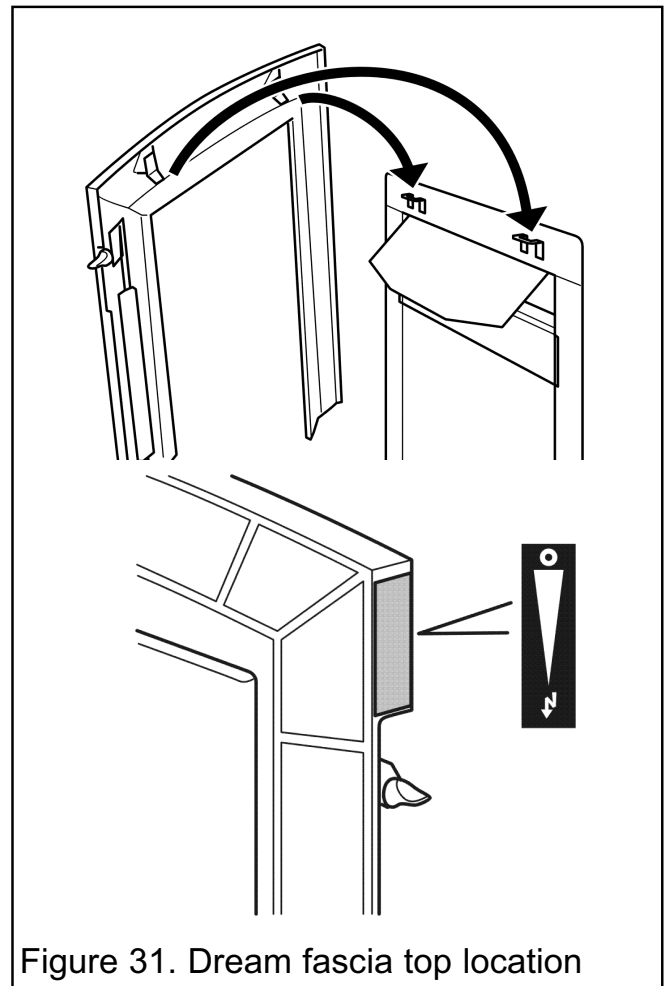
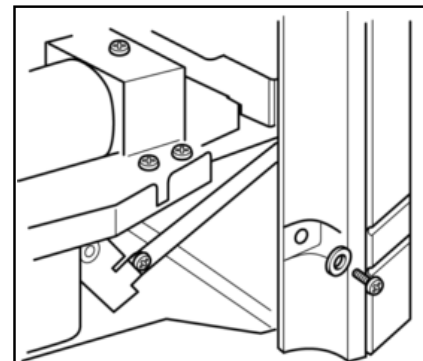

Figure 31. Dream fascia top location
Figure 32. Dream fascia bottom fixing
Place the fascia against the fireplace front surface so that the two retaining plates at the back of the fascia are above the two upper retaining brackets at the top of the convection box. Lower the fascia making sure that the rear retaining plates locate fully into the retaining brackets on the convection box (See figure 31). If the inlet pipe runs along the front of the fireplace, the bottom of the fascia will have to be swung forwards to clear the pipe while lowering the casting. Swing the bottom control linking bar towards the centre of the fire to clear the fascia. Align the bottom fixing holes with those in the convection box. Fix the bottom of the fascia to the convection box with two screws and washers (See figure 32).
6. Supplied with the fire is a self adhesive control position label. Peel the backing from the label and place as in figure 31.